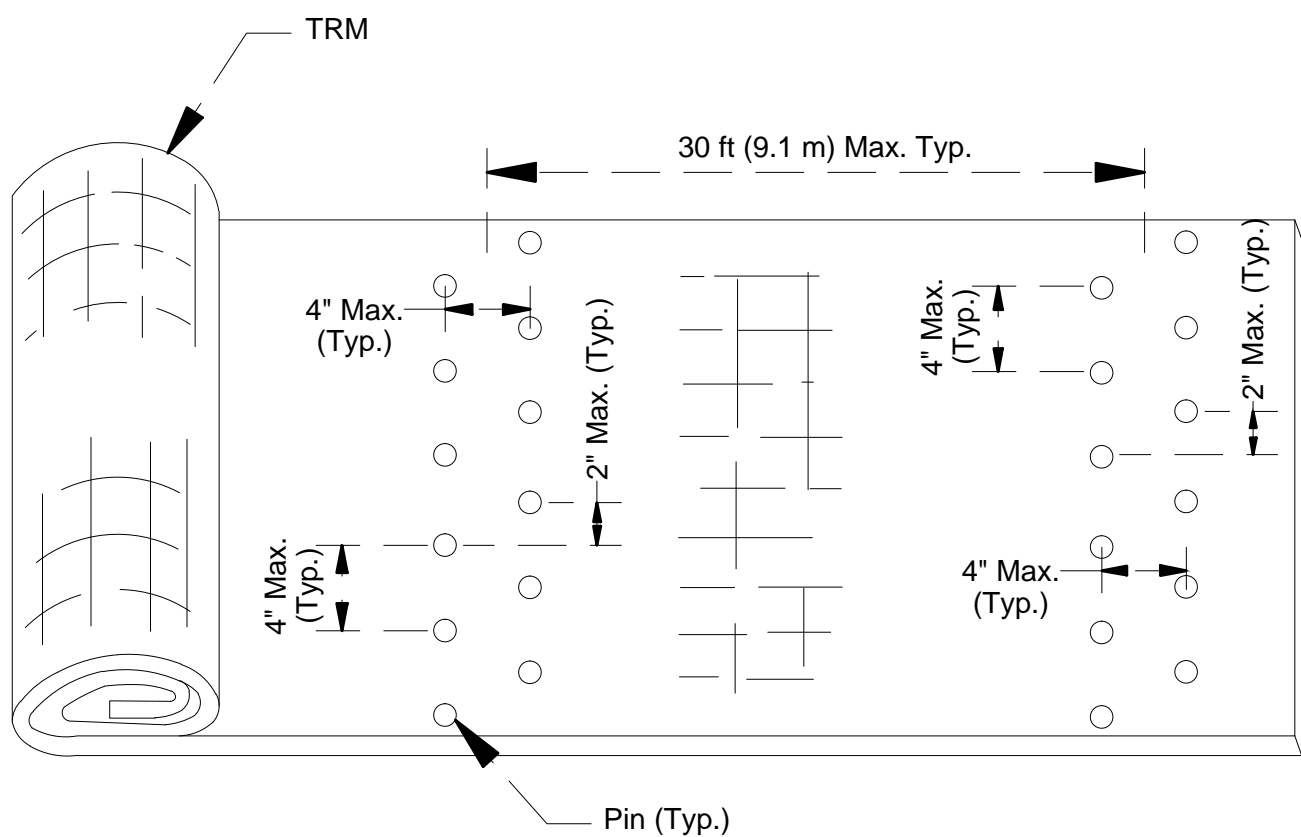

FIGURE 7: SIMULATED CHECK SLOT DETAIL
- For channel reaches longer than 45 ft (13.7 m), install simulated check slots per Figure 7. This method includes placing two staggered rows of pins on 4 in (100 mm) centers at 30 ft (9.1 m) intervals (see Figure 7) or across the midpoint of the channel for channel lengths less than 60 ft (18.2 m).